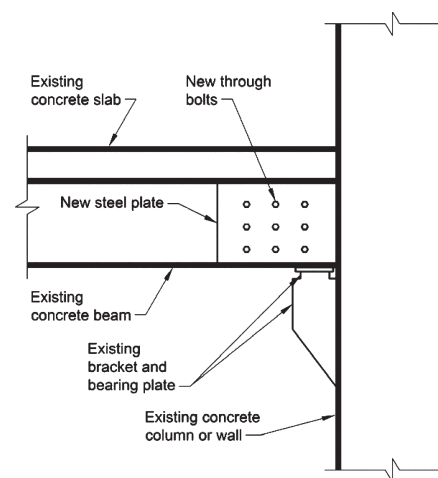

Fig. 1—External reinforcement with steel plate.
1. *External steel reinforcement*—The shear capacity of concrete members, such as columns, beams, slabs, and shear walls, can be increased by attaching steel plates (Fig. 1) to the concrete surface with epoxy bonding, mechanical anchorage, or both. Steel rods or reinforcing bars, either post-tensioned or non-post-tensioned, are another form of external steel shear reinforcement that is well suited to beams (Fig. 2);